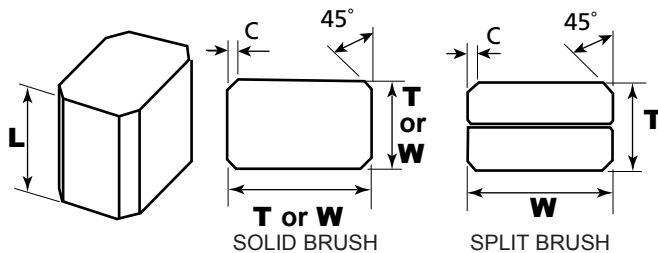

Figure 7. Chamfers
**Chamfers** are obtained by removing material from the side edges of a brush to eliminate the risk of jamming at the internal corners of the brush box. As shown in Figure 7, the standard angle of chamfer is 45 degrees. All National Electrical Carbon brushes are chamfered according to NEMA specifications unless otherwise requested.